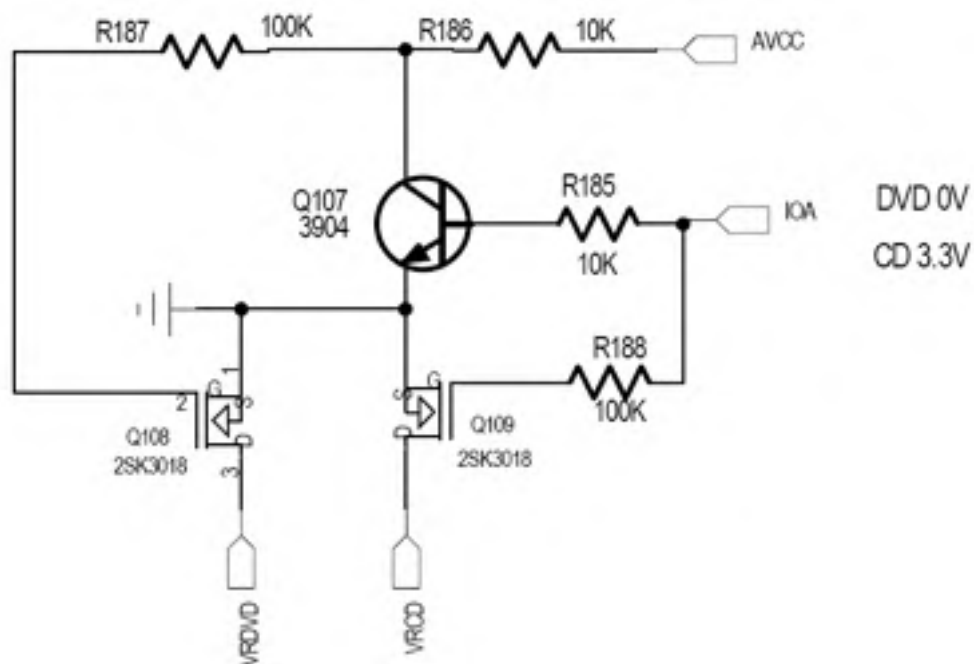

Figure 3.2.4.1 CD/DVD conversion circuit diagram
1. CD/DVD conversion circuit is shown as in the following figure 3.2.4.1: